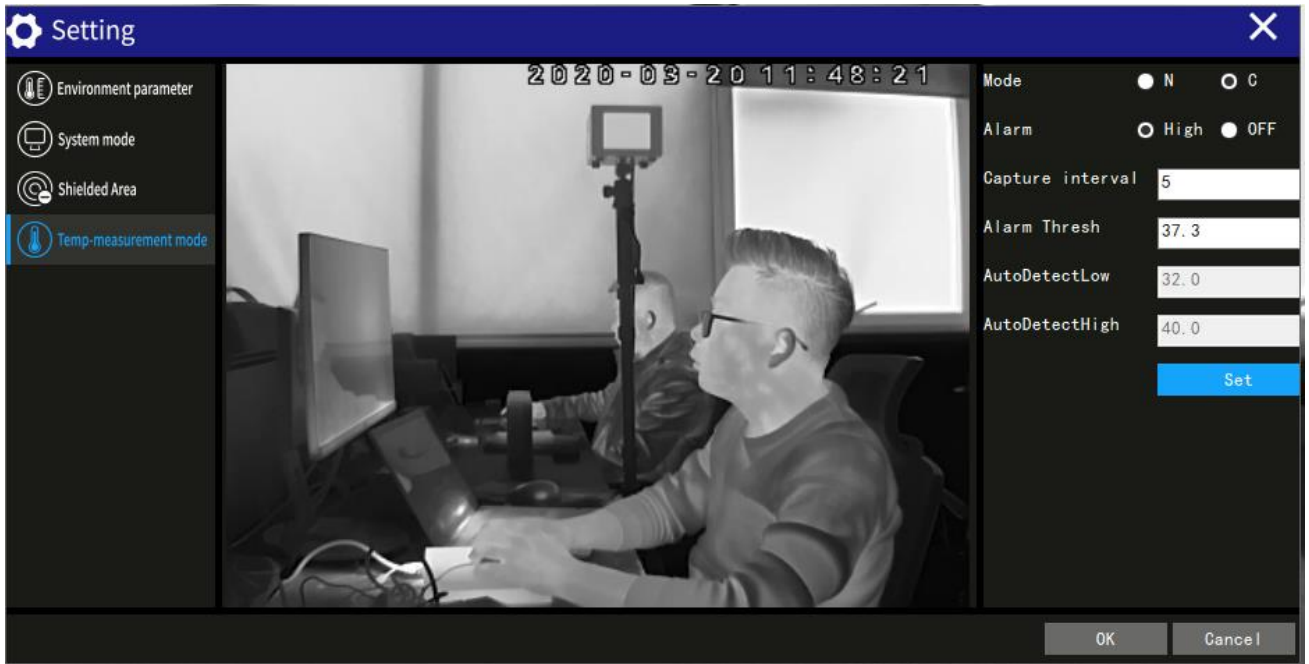

Figure 2.4 System software temperature measurement mode configuration interface
4. Temperature measurement mode configuration: as shown in Figure 2.4.